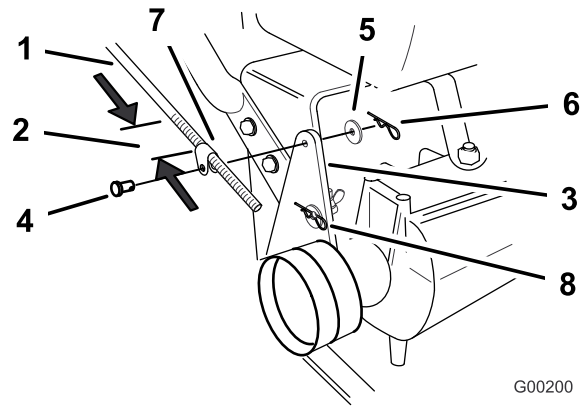

Figure 10
2. Make sure the rod fittings are equal distance onto each control rod. The rod fittings should be approximately 3-1/2 inch (89 mm) from the start of the threads for the handles lowest position (Figure 10).
3. Slide clevis pins through rod fittings and mounting holes in idler brackets (from outside) (Figure 10). Secure with washers and hairpin cotters (Figure 10).